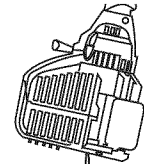

Fig. 16
2. Pour the oil out of the oil fill hole and into a container by tipping the unit to a vertical position (Fig. 16). Allow ample time for complete drainage.